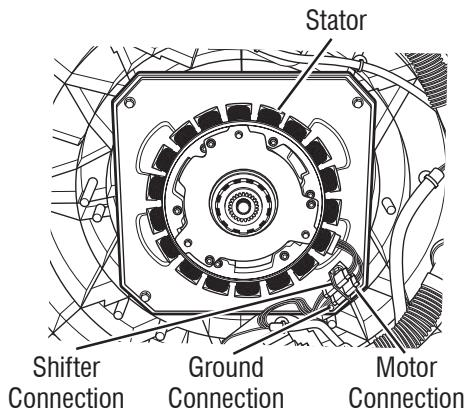
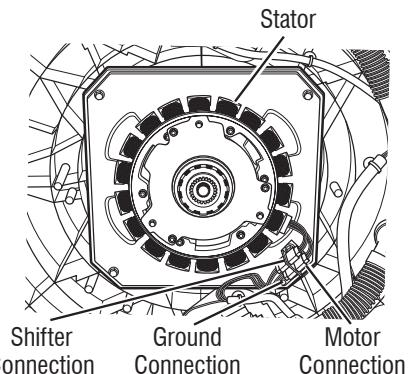

Figure 7 - Motor Cover Removed
Figure 8 - Checking Slider Movement/Alignment
11. Remove the motor bolt, then the motor cover (see Figure 7). Remove the motor stator and the shifter coil and confirm that the slider on the motor shaft moves freely (see Figure 8).
10. Tilt washer back (if it is not already) to disconnect the motor connector and use an ohmmeter to verify the motor resistance values at the drive motor connector (see Figure 8).